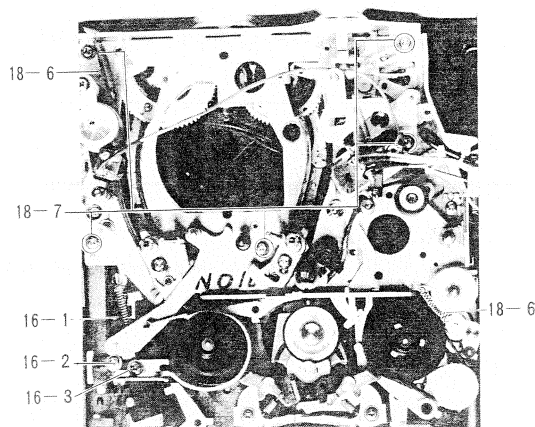

Fig. 22
16. Tension arm/tension band (Fig. 22)
18. Sub. chassis (Fig. 22)